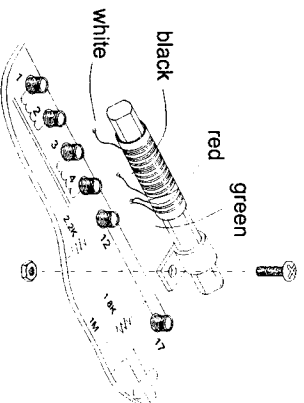

Figure 10
- ❑ Slip the white plastic Bracket over one end of the Coil. (See Figure 10.)